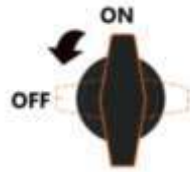

Fig. 4-40 Rotate all the DC switches
- 1) Rotate all the DC switches to "OFF" position (Fig. 4-40).